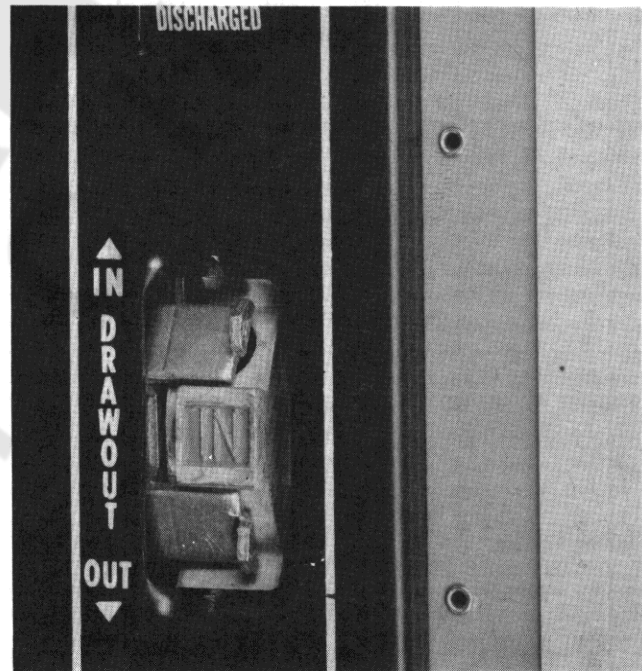

Figure 6
12. On a draw-out breaker, **charge** stored energy mechanism, close breaker and move draw-out interlock plate to the left. Breaker will trip. D/O interlock plate must be fully **reset** to the right before operating breaker to prevent trip-free operations. (Figure 6).